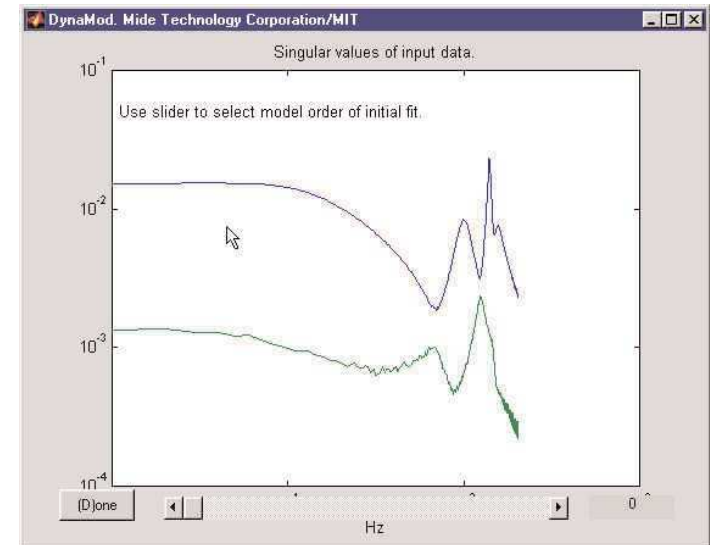

Figure 4. FORSE model order selection screen.
3. FORSE order selection menu (Figure 4): determines the model order used by the FORSE routine to create the initial model. The current model order is displayed on the right. Grab and move the slider control to change the order. The left and right buttons can fine tune the value. Select the 'Done' button to begin the FORSE routine. Over-parameterization of the initial model will generally lead to the best results. The model reduction and tuning algorithms will reduce out spurious modes. Depending on noise, model order, and modal observability, over-parameterization by 10% to 100% model order may be appropriate.